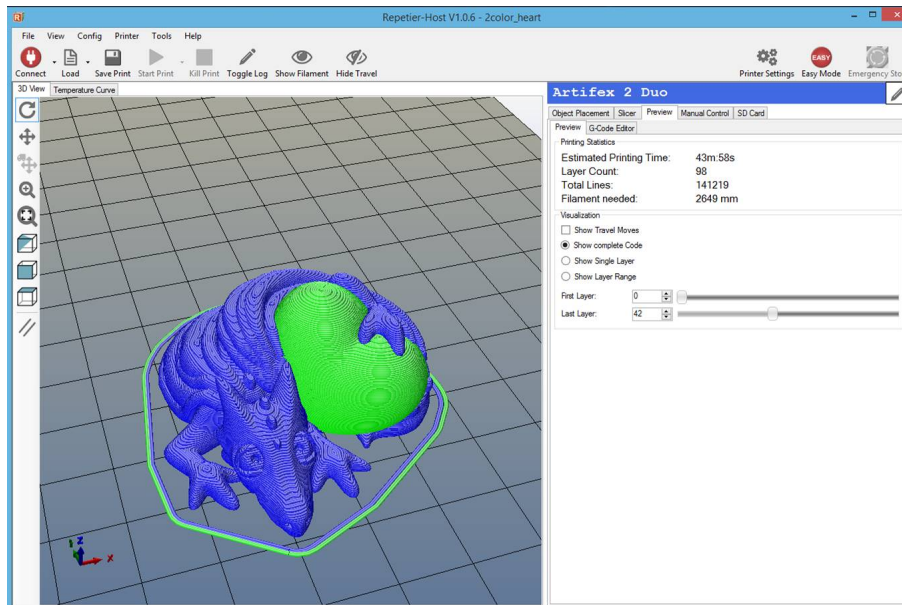

Figure 6.17: G-code generated by Slic3r
- After slicing, the generated G-code can be reviewed in Repetier-Host before sending it to the printer. Figure 6.17 shows the 3D preview of G-code generated by Slic3r.